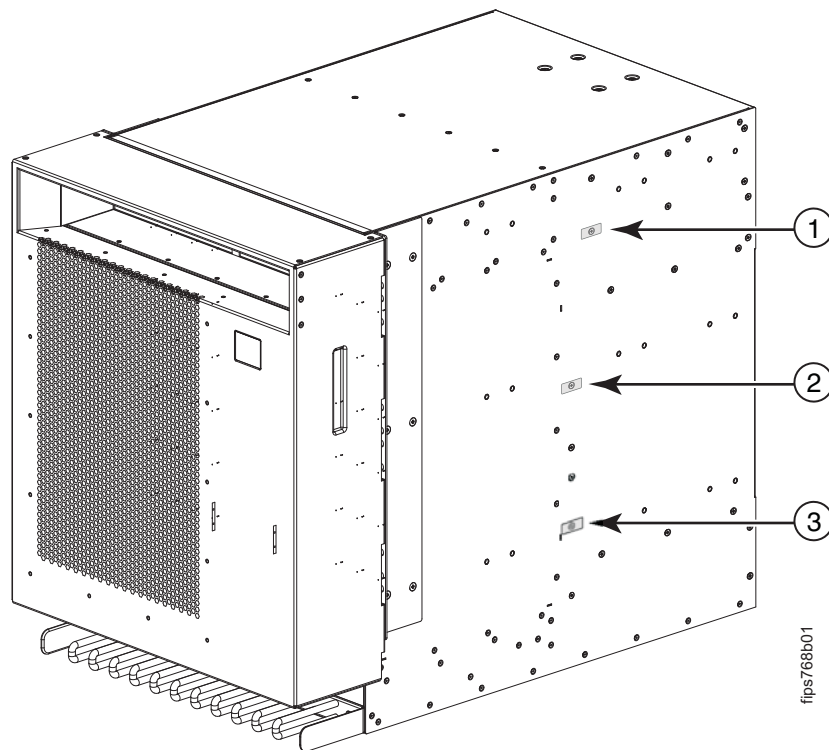

Figure 27. 2499-384 chassis right side seal location
Figure 27 shows the right side of the 2499-384 with the chassis door attached. Refer to the figure when performing the procedure. Twenty-two (22) seals are required to complete the security seals application procedure for the 2499-384 (three on the chassis, 12 on the port side blades and filler panels, and seven on the non-port side).
1. Locate the three screws on the right side of the chassis enclosure, as shown by **1**, **2**, and **3** in Figure 27 on page 27.